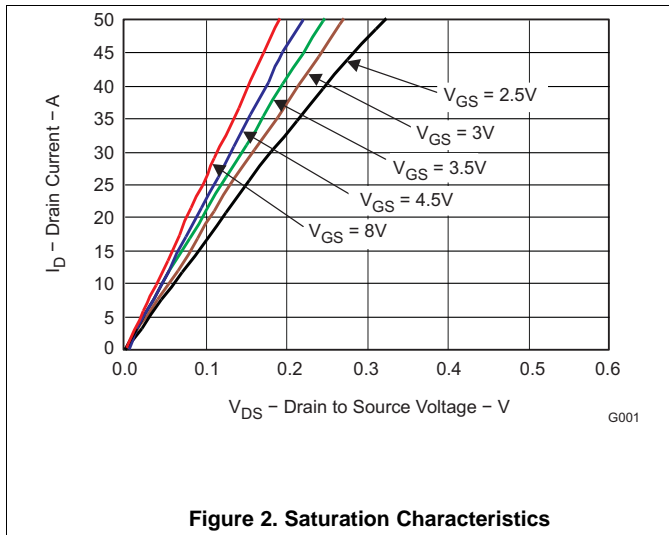

Figure 2. Saturation Characteristics
• Changed <a href="#">Figure 2</a> , reversed the order of the $V_{GS}$ labels .....	5